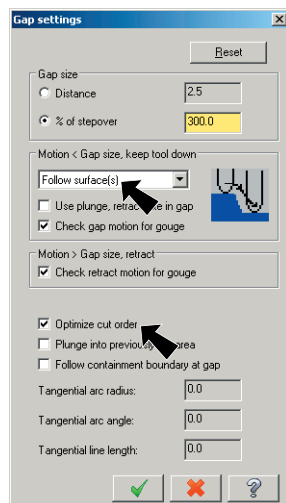

Fig. 46
Step 10. Under Motion, select **Follow surface(s)**, Fig. 46
Step 11. Check **Optimize cut order** and click OK , Fig. 46.